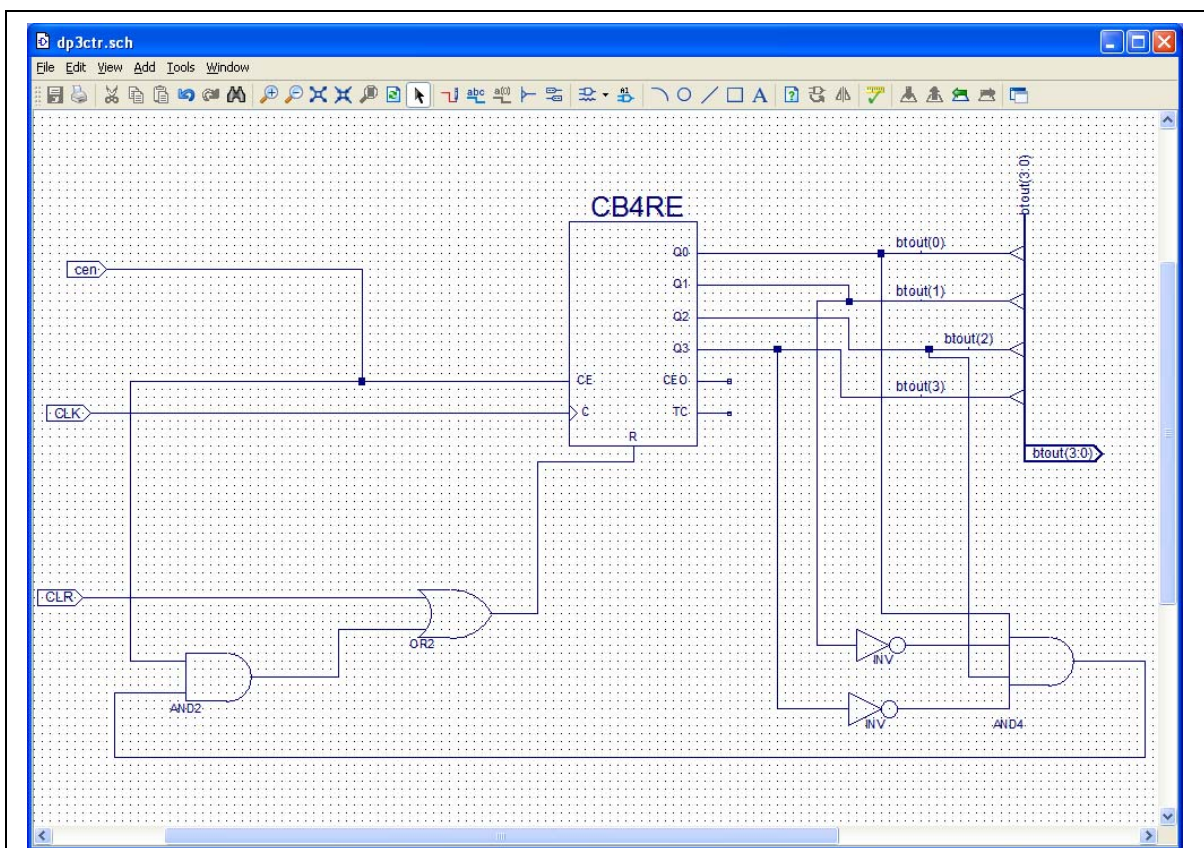

Figure 10: A 0 to 5 counter
symbols contains many such macros. For our next design we will use one of them, CB4RE, a 4 Bit Cascadable Binary Counter with Clock Enable and Synchronous Clear, to construct a counter that will count from 0 to 5, reset and continue. We will then save it as a new macro to be used in our next experiment. The design in Figure 10 is an implementation of such a counter.
with their names specified by using the netname tool. In our case these names are btout(0) to btout(3). Create the schematic entry in Figure 10; check for errors and save the file. The device that we wish to build will have 3 inputs, ce for Clock Enable, clr for Clear and clk for Clock. Outputs will consist of a bus 4 bits wide, btout(3:0). Start a new project with schematic entry at the highest level. Enter your design in the usual fashion naming the inputs ce, clk and clr. To generate a bus for output draw a line using the wiring tool and give it a name btout(3:0). The program will change the line into a thicker,